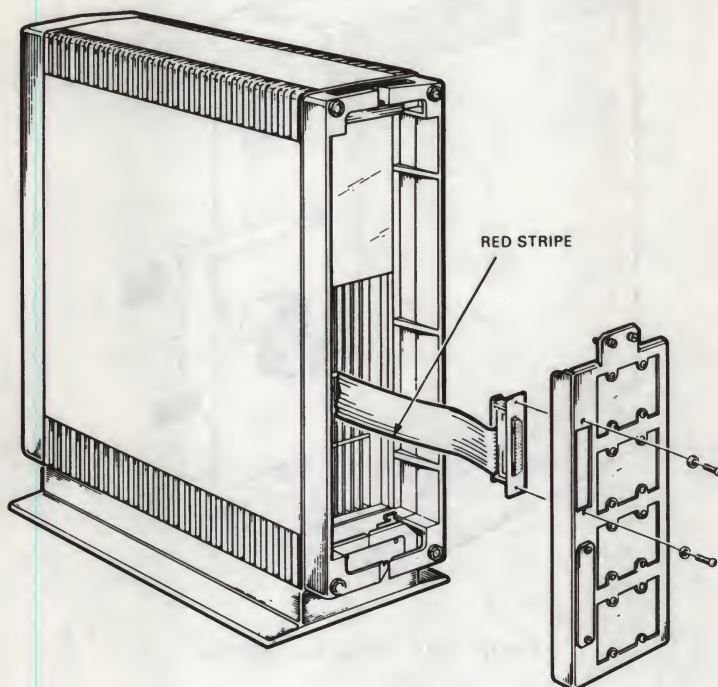

Figure 1-11 Installing the Filter Connector
- Insert the ribbon cable connector in the cutout in the I/O distribution panel and secure (Figure 1-11).